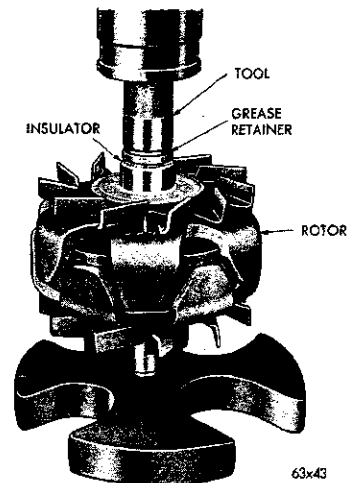

Fig. 74—Installing Bearing Grease Retainer
(15) Position the new grease retainer insulator and grease retainer on the rotor shaft and press the retainer on the shaft with installer Tool C-3921 (Fig. 74.) The retainer is properly positioned when the inner bore of the installed tool bottoms on the rotor shaft.